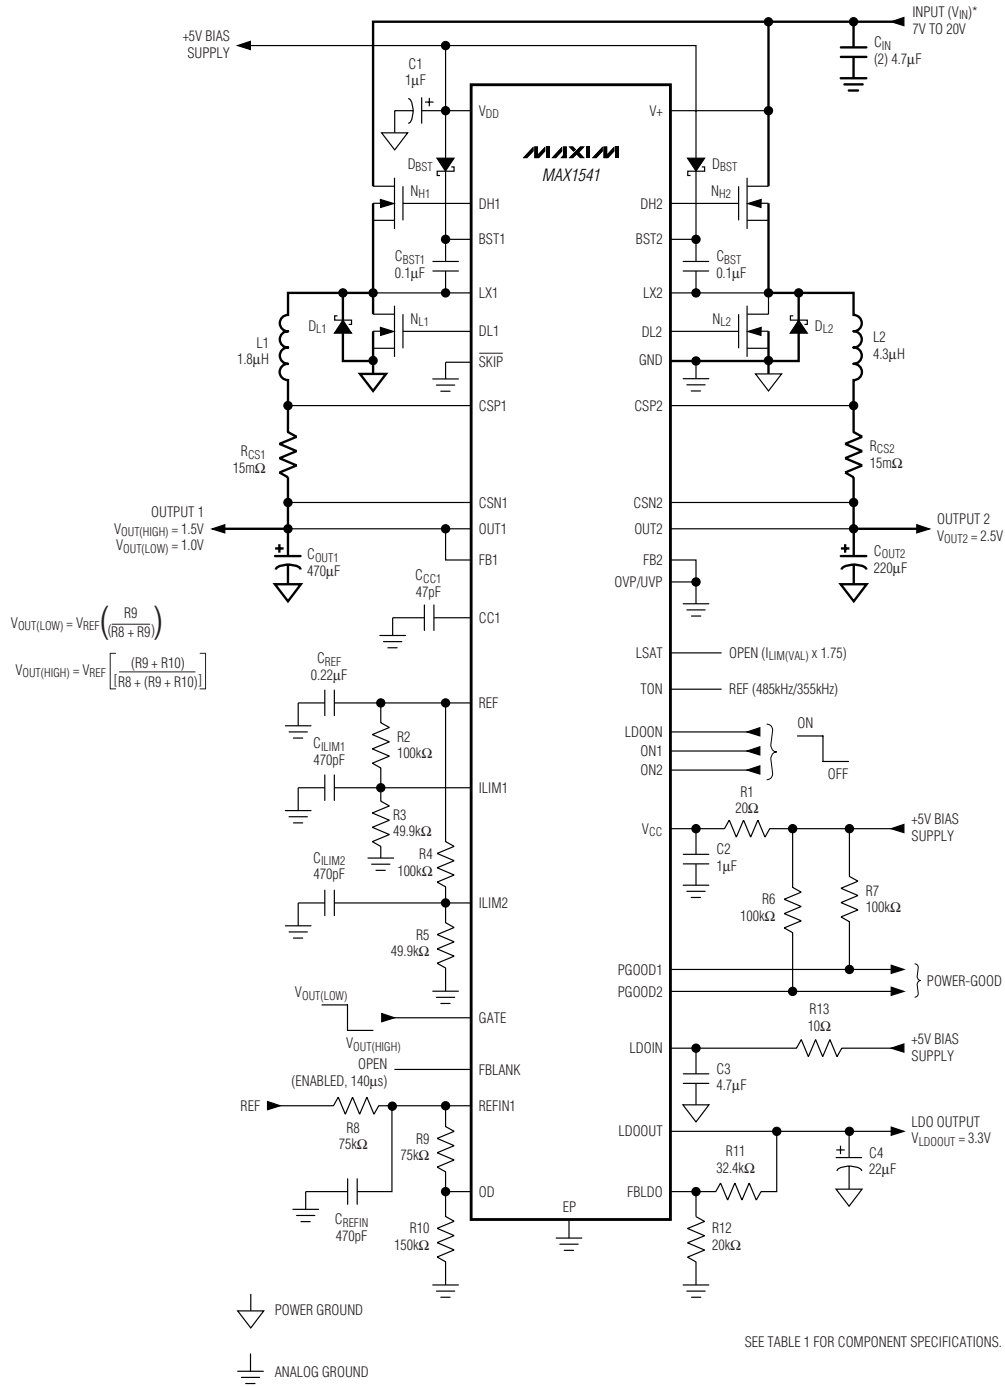

Figure 12. MAX1541 Standard Application Circuit
The MAX1541 regulates FB1 to the voltage set at REFIN1. By changing the voltage at REFIN1, the MAX1541 can be used in applications that require dynamic output-voltage changes between two set points. Figure 12 shows a dynamically adjustable resistive voltage-divider network at REFIN1. Using the GATE signal and open-drain output (OD), a resistor can be switched in and out of the REFIN1 resistor-divider, changing the voltage at REFIN1. A logic high on GATE turns on the internal N-channel MOSFET, forcing OD to a low-impedance state. A logic low on GATE disables the N-channel MOSFET, so OD is high impedance. The two output voltages (FB1 = OUT1) are determined by the following equations:
voltage during dynamic transitions. With the additional capacitance, the REFIN1 voltage slews between the two set points with a time constant given by $R_{EQ} \times C_{REFIN1}$, where R_{EQ} is the equivalent parallel resistance seen by the slew capacitor. Looking at Figure 12, the time constant for a positive REFIN1 voltage transition is:
For the MAX1541, the linear regulator supports Dual Mode operation to allow the selection of a 5V output voltage without requiring external components (Figure 1). Connect FBLDO to GND for a fixed 5.0V output. The linear regulator's output voltage can be adjusted from 1.25V to 5.5V using a resistive voltage-divider (Figure 12). The MAX1541 regulates FBLDO to a 1.25V feedback voltage. The adjusted output voltage is: